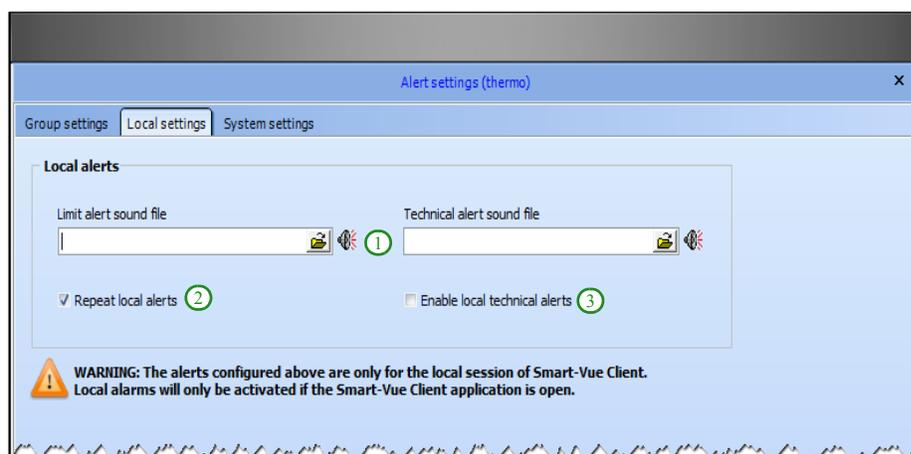

Figure 105. Local settings in the Alert management window
4. You may choose to play a sound file (.WAV) on the computer's speakers when a new limit is detected (enter the .WAV file name in the field to the left of ① in Figure 105) or when a new technical alarm is detected (enter the .WAV file name in the field to the right of ①).
5. If you select the checkbox **Repeat local alerts** ②, the list of alarms in the main Smart-View Client window (to the left of the dashboard) is scanned once every minute. The .WAV sound is played when the first alarm configured to play the sound is found in the list (could be either a limit alarm or a technical alarm).
6. You may use the **Enable local technical alerts** option to enable or disable local technical alerts ③. When this option is disabled, only limit alarms will trigger local alerts.